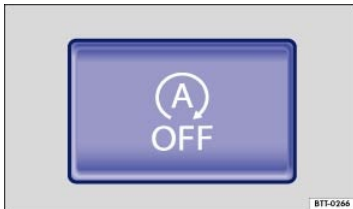

Fig. 115 In the lower center console: Button for the Start-stop system.
- Press the  button ⇒ Fig. 115 to deactivate the system. If Start-stop has been deactivated, the indicator light in the button comes on.
- Press the  button ⇒ Fig. 115 again to reactivate the system.